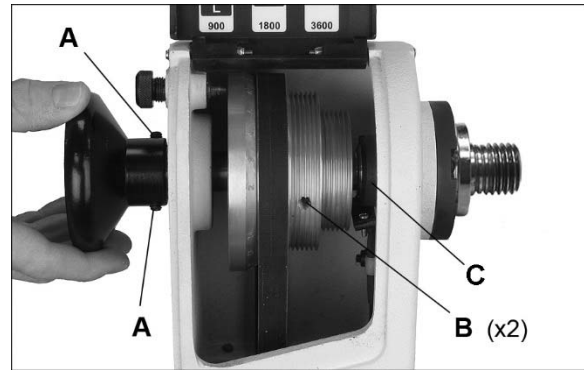

Figure 29
Referring to Figures 29 through 32:
- that spindle sensor collar (C, Figure 29) is positioned over the sensor before tightening setscrew.